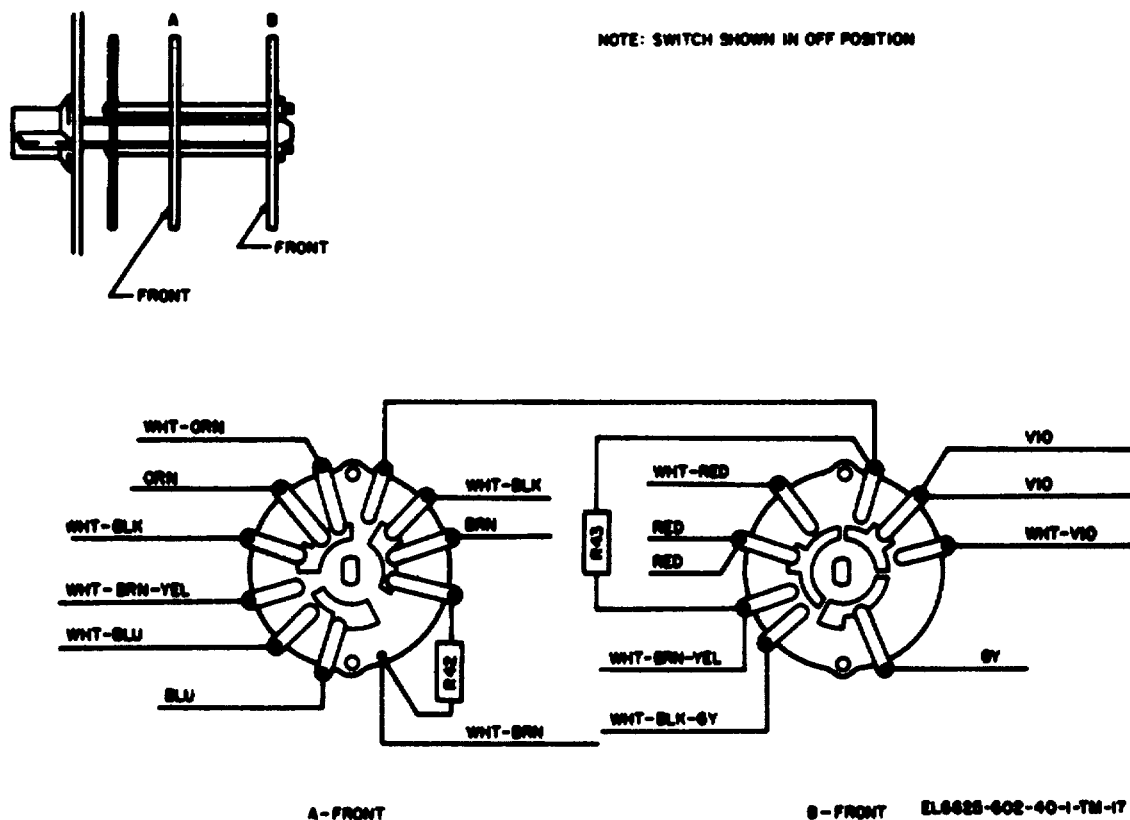

Figure 4-7. Voltmeter, Electronic ME-260B/U FUNCTION switching wiring diagram.
(1) Solder the leads to the replacement switch as shown in figure 4-7.
(2) Replace the switch shaft in the chassis.
(3) Replace the nut and washer on the switch shaft and tighten the switch to the chassis.
(4) Replace the circuit board and FUNCTION knob.
(5) Replace the top, bottom, and side panels.
(6) Replace the voltmeter in the carrying case.